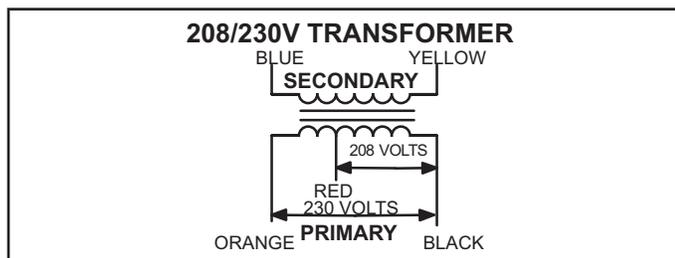

FIGURE 2
All models use a single line voltage to 24VAC transformer mounted in the control box. Transformer T1 supplies power to control circuits in the unit. The transformer is rated at 90VA and is protected by a 6.0 amp circuit breaker (CB8). CB8 is internal to the transformer. The 208/230 (Y) voltage transformers use two primary voltage taps as shown in figure 2, while 460 (G) and 575 (J) voltage transformers use a single primary voltage tap.